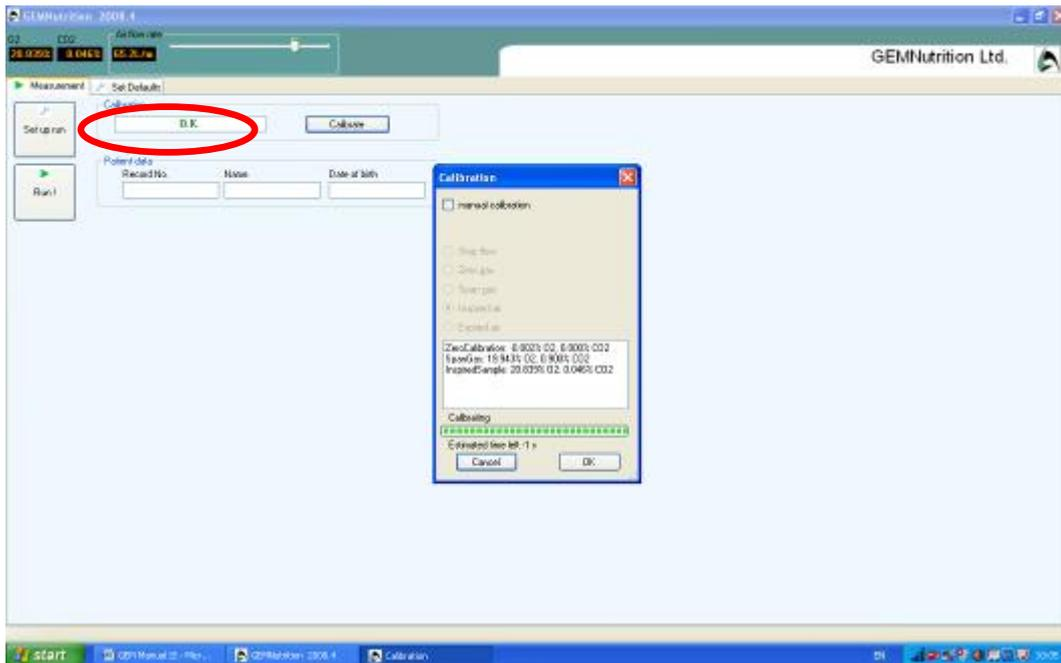

Figure 4. Calibration result.
7. After each calibration, "OK" in green text will be displayed (circled red in figure 4).
- c. Go to the “default settings” tab (shown in figure 4) and check under “connection settings” and “serial port name” it says “COM3.